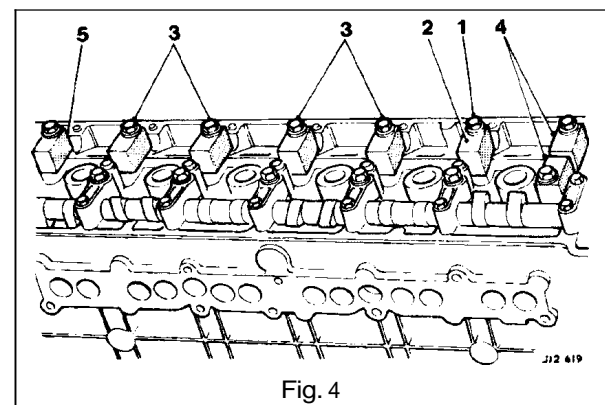

Fig. 4
- Remove the cylinder head bolt from No. 2 cap, left-hand camshaft (1 Fig. 4).
- Fit spacer tool 18G 1435 (2 Fig. 4) to the head.
- Repeat the procedure for Nos 3, 4, 5 and 6 caps, left-hand camshaft (3 Fig. 4).
- Loosen in sequence the securing bolts from Nos 1 and 7 caps, until the left-hand camshaft is free. Lift the camshaft from the cylinder head and fit spacer tool 18G 1435 to No. 7 cylinder head bolt position (5 Fig. 4). Fit and torque tighten the bolt.
- Remove the camshaft coupling (12 Fig. 4) from the sprocket (11 Fig. 4) and align the securing bolt holes.
- Fit the tab washers (1 Fig. 4). Fit and tighten the securing bolts (2 Fig. 4). Lock over the tabs.
- Fit a new housing gasket (10 Fig. 4). Lubricate and fit a new 'O' ring (9 Fig. 4).